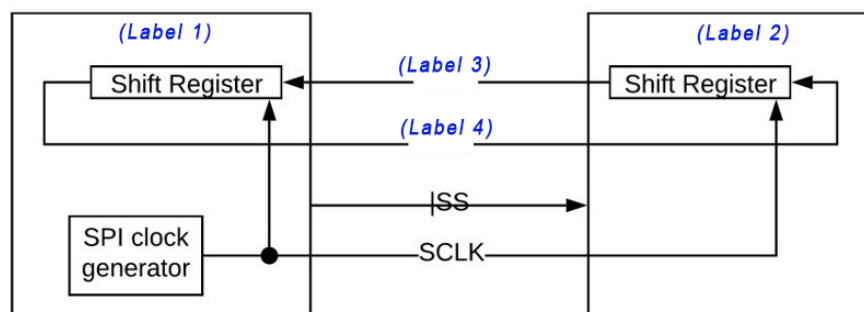

Figure 1: SPI interface with missing labels
(i) Figure 1 shows the basic structure of the SPI protocol's interface. Provide names for the four missing labels. (2)
- (ii) SPI is said to be a full-duplex protocol. Explain what this means and make reference to Figure 1 in your answer. (2)
Solution: Both the master and slave devices can communicate simultaneously to each other as there are separate data lines for transmission from master to slave (MOSI) and from slave to master (MISO), as illustrated by the directional arrows between the two devices in Figure 1.